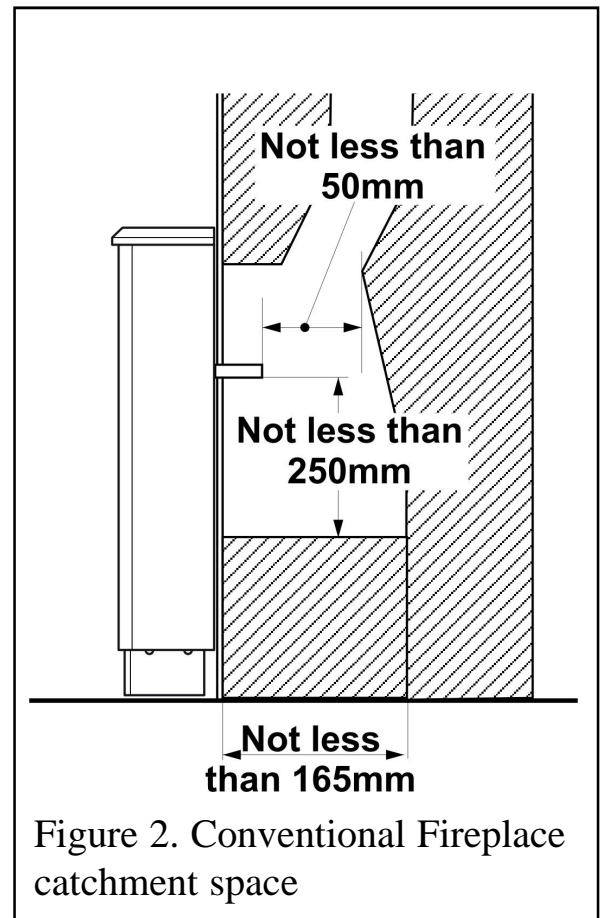

Figure 2. Conventional Fireplace catchment space
Any opening visible below the appliance may be closed in but the depth of the catchment space within the wall opening must be as shown in figure 2.
On conventional flues the catchment space below the flue spigot must extend at least 250mm downwards measured from the bottom of the flue spigot (See figure 2).
5.3.7. If the fire is fitted to a recessed fireplace, an extension flue spigot up to a maximum total length of 125mm may be used. The extension must be a tight fit over the flue spigot and be secured by two self tapping screws. Note the minimum clearance required as shown in figure 2.